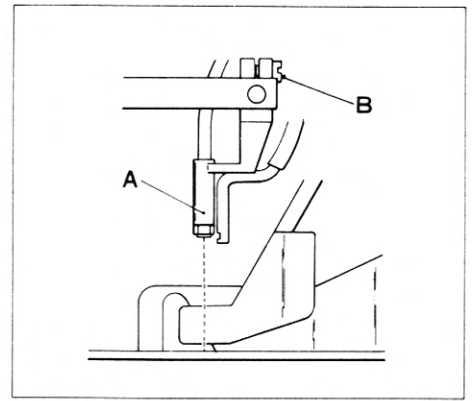

Figure 1
1. Photo Eye Sensitivity Adjustment (Figures 1 and 2)
2. Photo Eye Position Adjustment (Figures 1 and 3)